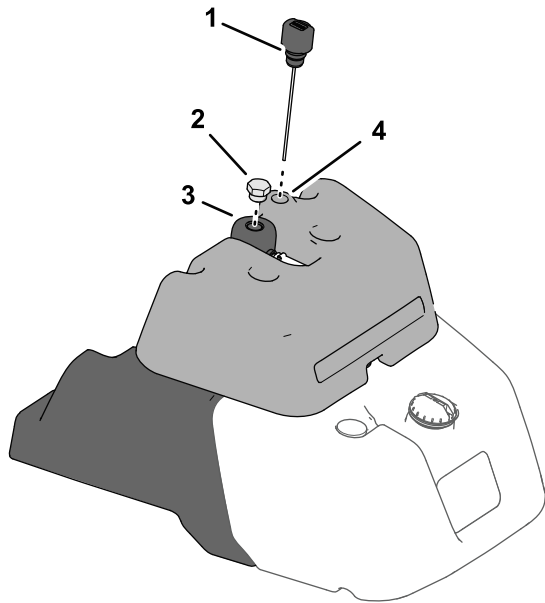

Figure 36
- If your machine has a fuel gauge at the top of the fuel tank, locate the dipstick for the hydraulic system at the top of the leak detector tank (Figure 36) and proceed to step 3.